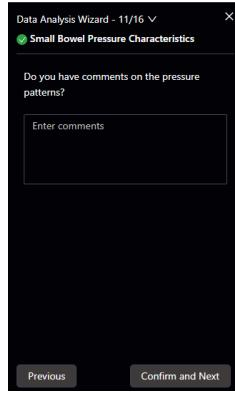

Figure 4-35 Data Analysis – Small Bowel Pressure Characteristics
12) Small Bowel Pressure Characteristics (Figure 4-35). Enter comments based on actual conditions, then click [Confirm and Next] to proceed.